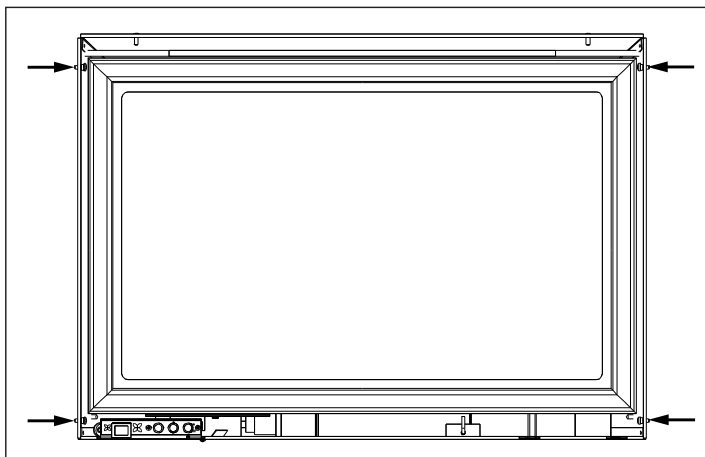

Figure 66: Bushing Locations.
Lift the trim upright in front of the fireplace with the four (4) hooks pointing towards the fireplace. Slide the hooks over their corresponding bushings (see Figures 66 & 67). Ensure the hooks are secure before releasing the trim. The surround should be wiped with a damp cloth periodically.